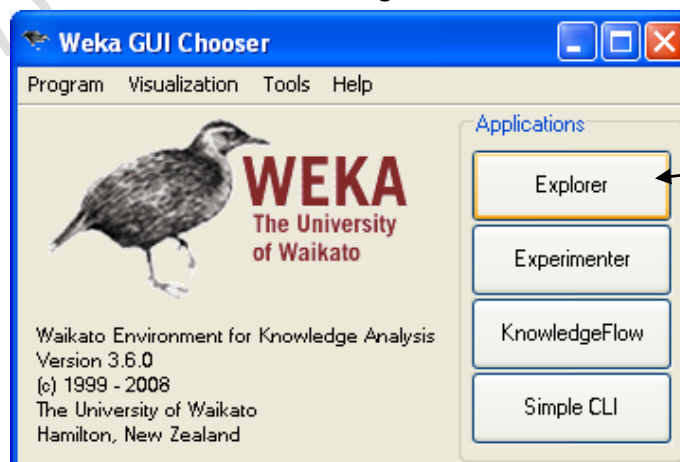

Figure-2
2. Now Click on Explorer as shown in the above figure-2.